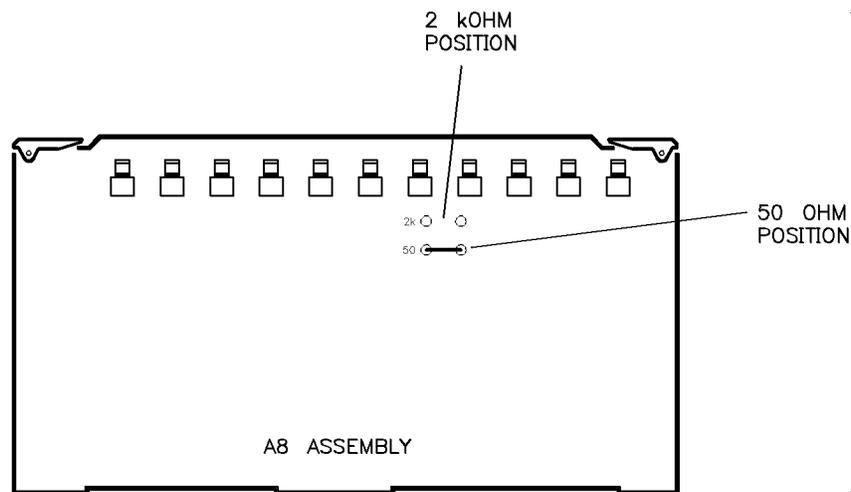

Figure 3-36. A8 Jumper Locations
2. Lift up the A8 modulation generator assembly far enough to access the jumper shown in Figure 3-36.